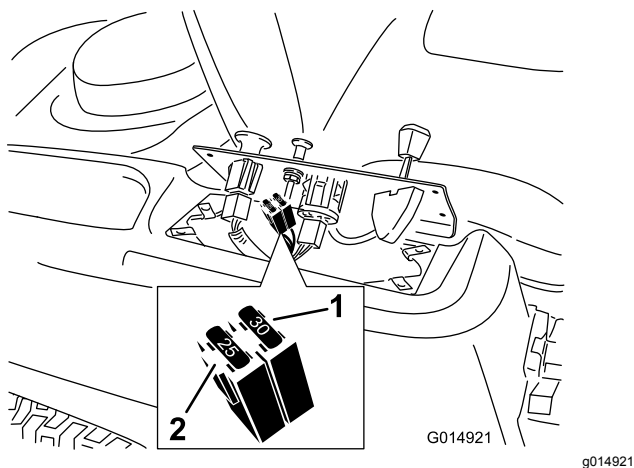

Figure 42
2. Lift the control pane up to access the main wire harness and fuse block (Figure 42).
3. To replace a fuse, pull out on the fuse to remove it (Figure 42).